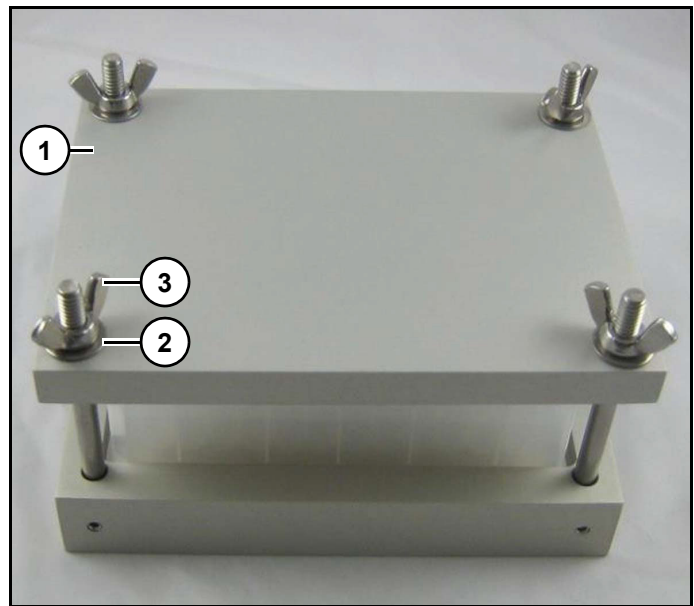

Figure 119
Refer to (Figure 119).
4. Place the silicone spacer mat (not shown) (Figure 119) on top of sealed well plate.
5. Place deprotection chuck top (1) on top of entire assembly.
6. Secure top plate with washers (2) and wing nuts (3).